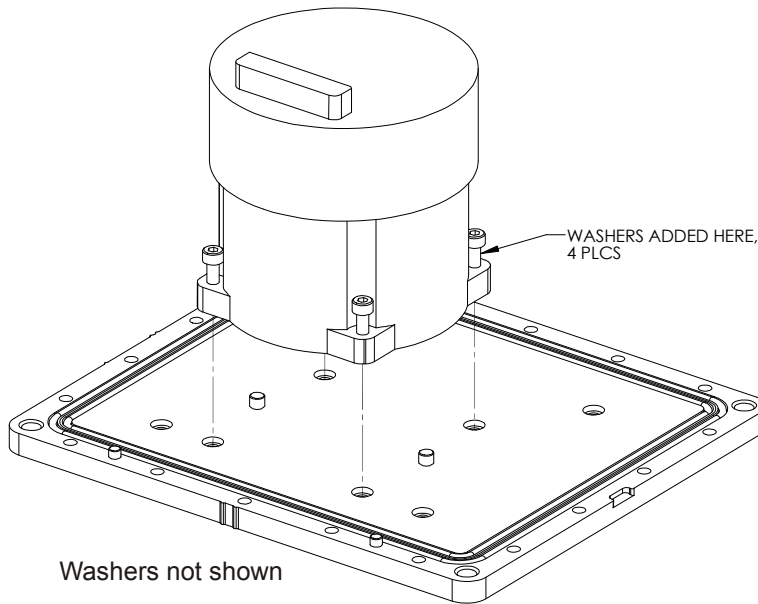

**Figure 67: Remove IMU Bracket/SDLC**
4. Using a 3 mm hex bit, unscrew 4 mm screws and remove the IMU bracket with SDLC, as shown in *Figure 67*.